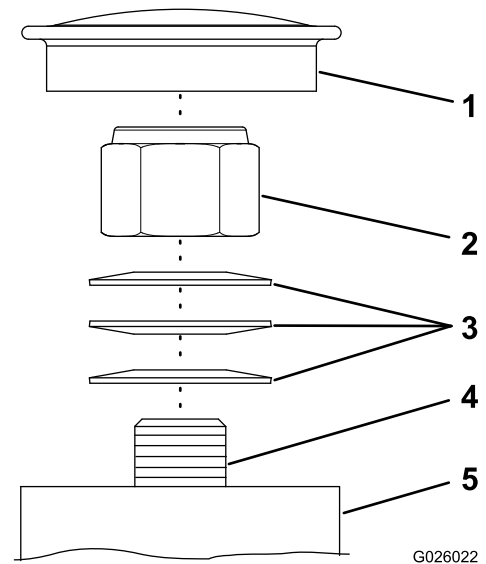

Figure 44
Note: If you disassemble the caster pivot bearings, ensure that the spring-disc washers are installed as shown in Figure 44.
1. Remove dust cap from caster hub (Figure 44).
2. Tighten the locknut clockwise until the spring-disc washers are flat (Figure 44).
3. Rotate the locknut counterclockwise 1/4 turn (Figure 44).
4. Install the dust cap (Figure 44).